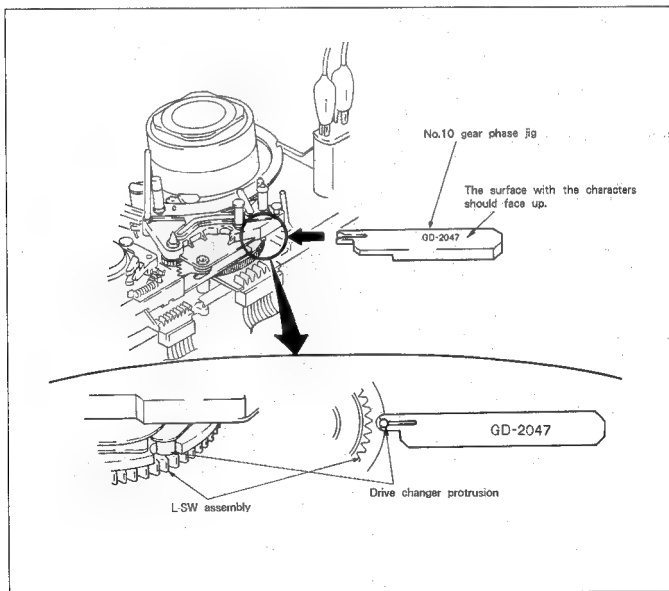

Fig. 7-13.
- 1) Mount the threading ring assembly ⑪ so that it becomes in the unthreaded state (pinch roller arm assembly is on the front panel side.) (Confirm that is in the state in 1. Removal 2).)
- 2) Mount the ring roller ⑫ and ring stopper ⑬ and tighten with the two screws ⑭. (No.8 guide assembly ⑮ should be closer to the front panel than the ring stopper ⑬.)
- 3) Mount the ring roller ⑯ and roller top plate ⑰ and tighten with screw ⑱. (Confirm that the threading ring assembly matches the three ring rollers.)
- 4) Put a half drop of oil on the shaft ⑲.
- 5) Check that the protrusions on the drive changer assembly are in the indentations of the L-SW assembly and insert the No.10 gear phase alignment jig (Ref. No. J-9). (See Fig. 7-13.)
- 6) Mount No.10 gear ⑳ and fix stopper washer ㉑ while pushing the No.8 guide assembly ⑮ against the ring stopper ⑬.